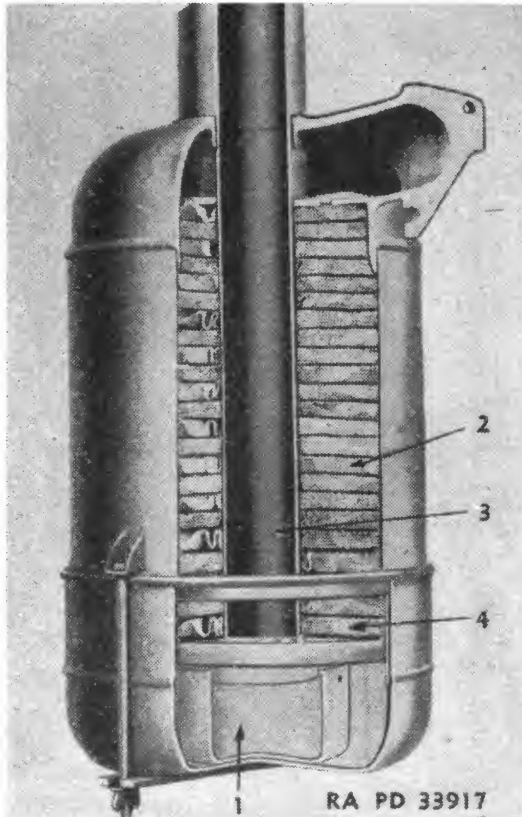

FIGURE 16.—Air cleaner.
18. Air cleaner.—*a.* At the time other engine reconditioning work is being done, the air cleaner (fig. 16) should be removed for a thorough inspection. Remove oil cup (1) and replaceable screens (4). Thoroughly clean center stack (3) of dirt accumulations.